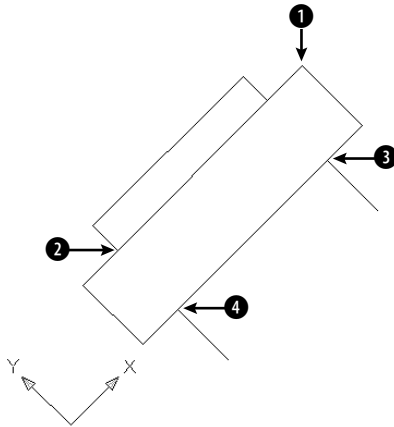

**Figure 8-20:** Using a customized UCS to start to draw a detail for a drill.
Base point: Use the Endpoint object snap to pick point ❶ in Figure 8-20.